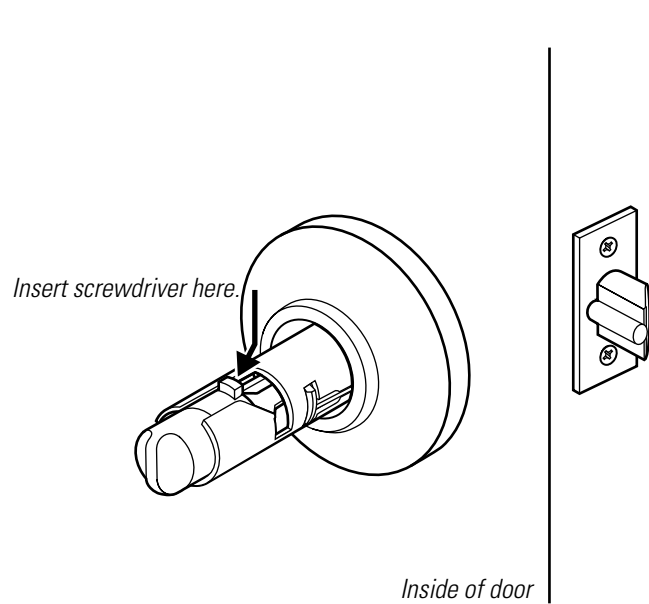

Figure 3.9 Removing the button assembly
2. Insert a flat blade screwdriver behind the plastic button retainer and pry the button assembly from the locking bar, as shown in Figure 3.9.